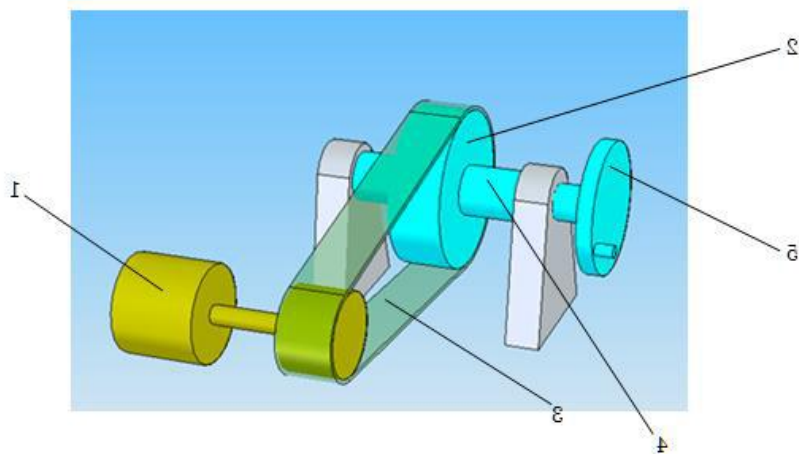

Figure 2. Drive belt system.
The electric motor (1) on the ground drives the pulley (2) via the belt (3) as shown in Figure 2. The pulley mounted on the shaft (4) rotates at a constant angular velocity transmits the motion to the crank (5). The shaft (4) rotates on large journal bearings that can be considered as revolute joints. The crank (5) is attached to the connecting rod (6) by the pin A. Similarly, connecting rod (6) is joined to the Link BD and CE by the pin B and C, respectively. Crusher is hinged to the machine frame by pin F and to the link DB by pin D.